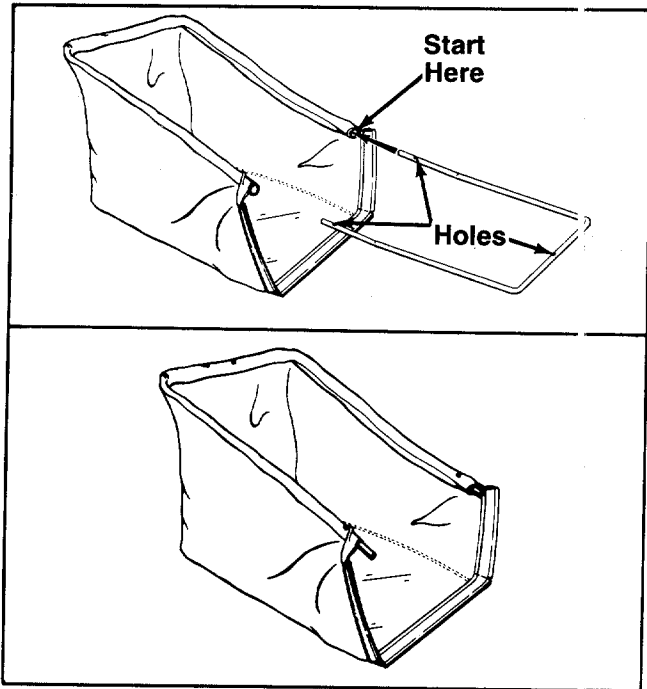

FIGURE 15.
1. There are three holes in the rear frame. With the holes on the upper side as shown in figure 15, insert one end of the rear frame into the cloth channel on the edge of the grass catcher bag. Feed all the material on one side of the frame before working it around the frame. See figure 15.